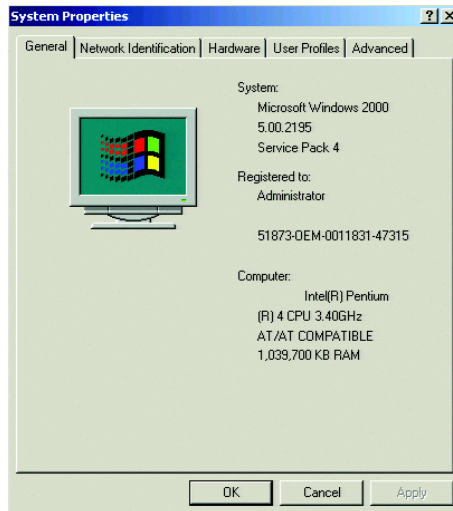

Figure 14. System Properties Dialog Box
4. Verify that the amount of RAM is now 1 GB. Refer to Figure 14.